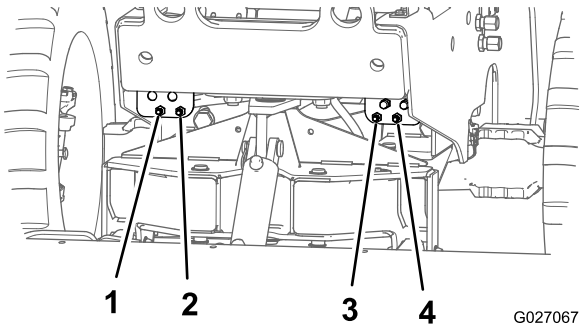

Figure 39
1. Remove the caps from the inboard and outboard bulkhead fittings of the right-hydraulic panel (Figure 39).
1. Remove the caps from the tilt cylinder extend and retract ports of the left-hydraulic panel (Figure 39).